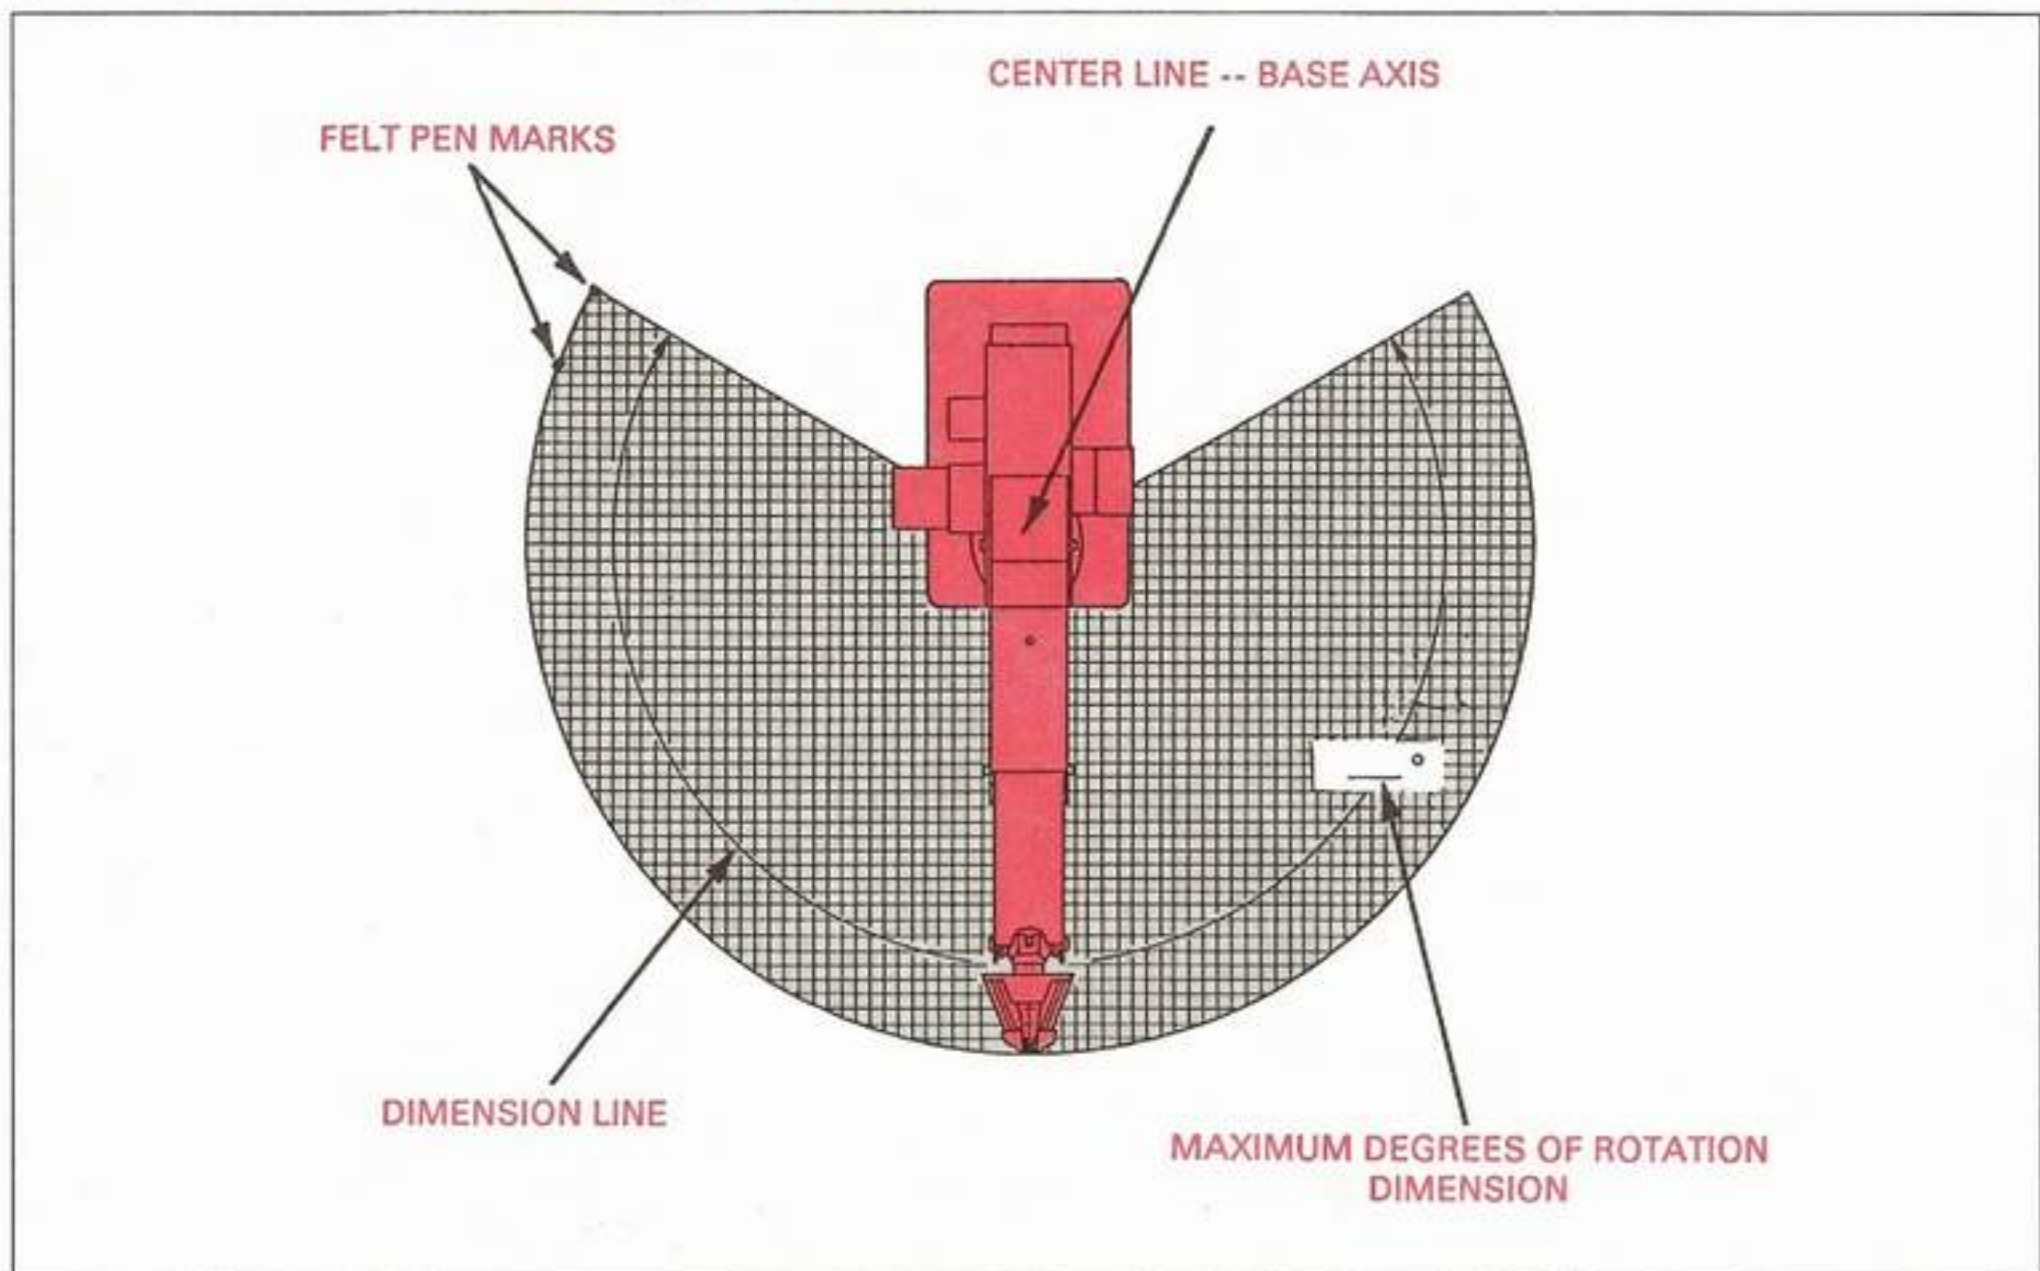

Fig. 78: Horizontal Envelope Nomenclature
- ___ m. Using the felt-tip pen, draw a smooth arc through the marks you made on the grid sheet in **Step i**. Refer to Fig. 78.
- ___ n. Next, draw a line connecting each end of the arc to the center line of the base axis (marked "BASE AXIS" on the grid sheet). Refer again to Fig. 78.
- ___ q. Draw a dimension line on the chart indicating the rotational swing, and then add the degrees-of-rotation measurement from Step o. Refer to the example in Fig. 78.
- ___ r. Using a soft pencil, lightly shade-in the work envelope, again referring to Fig. 78.